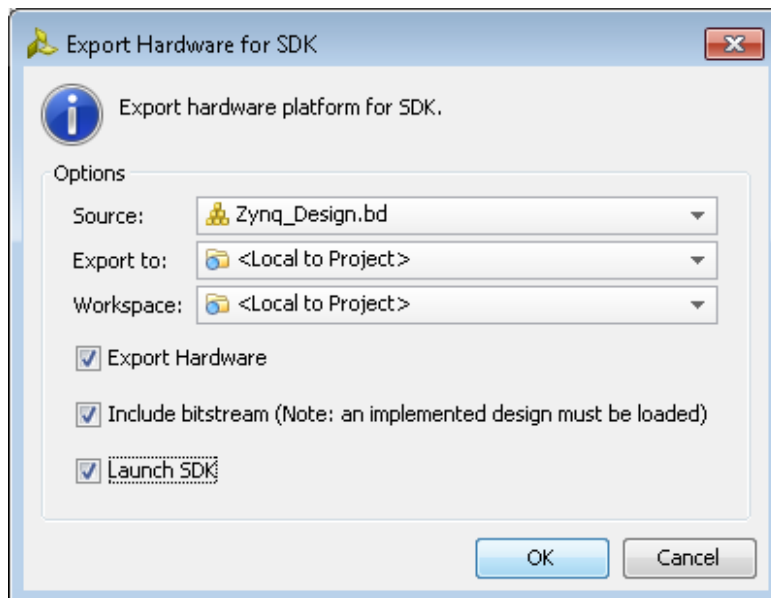

Figure 236: Export to SDK Dialog Window
2. In the Export Hardware for SDK dialog box (Figure 236), ensure that the **Include Bitstream** and **Launch SDK** options are enabled and click **OK**.